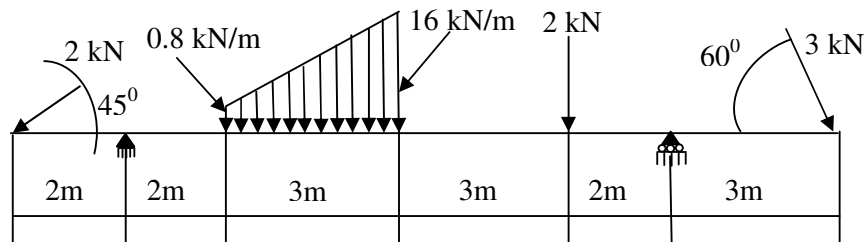

Figure1
3. Draw the SFD and BMD for the beam loaded as shown in the Figure1